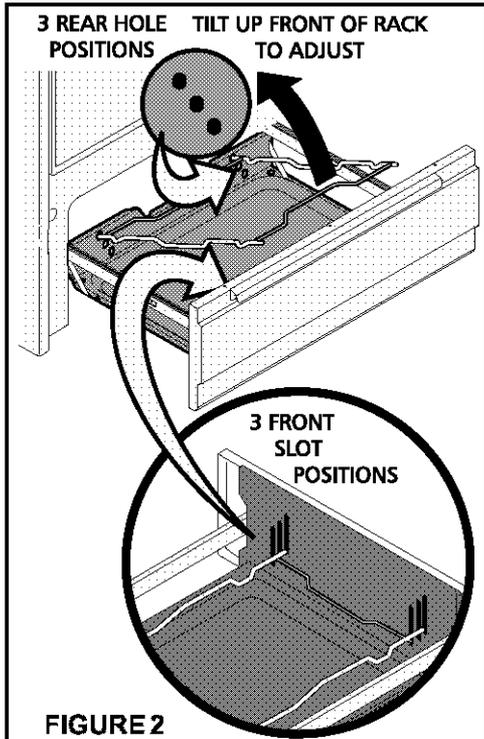

FIGURE 2
4. Position rack by tilting front of rack up and pulling rack out from locating holes in rear of broiler drawer. Reposition back of rack in the desired locating holes and allow front of rack to slide down into the corresponding slots in front of broiler drawer, Figure 2.